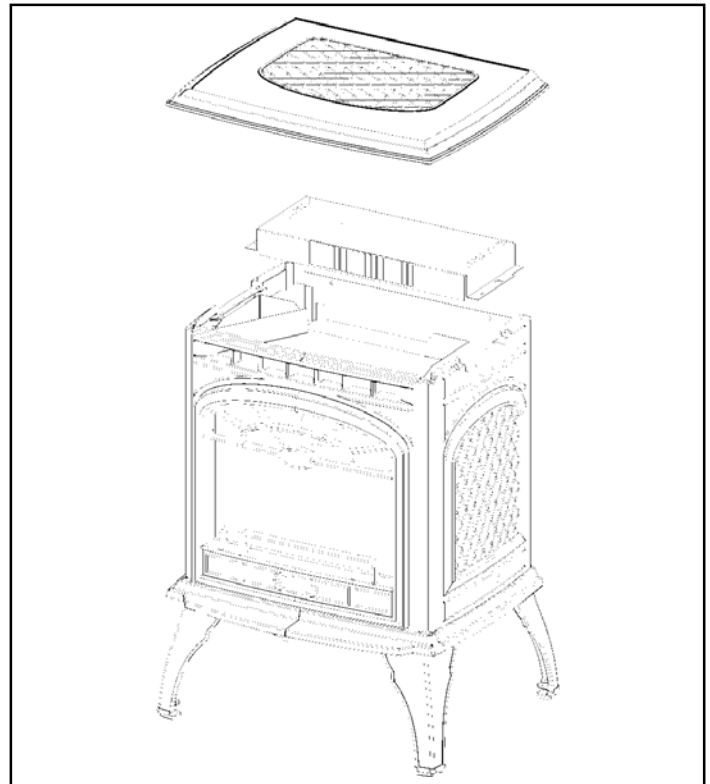

Figure 5 - Remove the Heating System
- Remove the heating system. See Figure 5. Rest it on top of the heater so it does not fall.